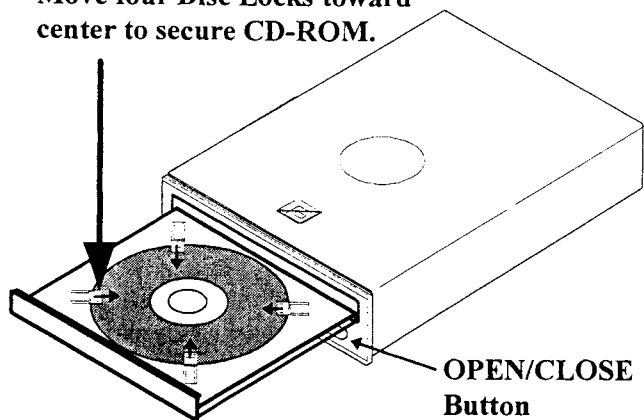

Figure 12: CD-ROM Installation
- 32. Power-up the game and set the CD-ROM into CD-Drive. (See Figure 12. For detail)
36. Set the CD-ROM. Secure the CD-ROM with Disc Locks. (See Figure 12).